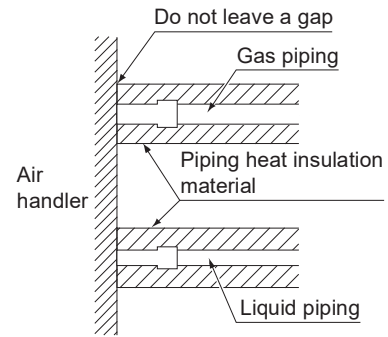

Figure 13
4. After checking for gas leaks, be sure to insulate the piping connections referring to Fig. 13.